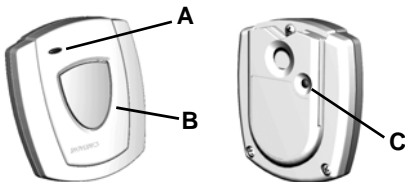

Figure 1 Transmitter external components
8. When prompted by the receiver or gateway to reset transmitter, press the reset button (Figure 1).
7. Once the unit has been sealed, press the reset button located on the rear housing to complete the configuration (Figure 1).